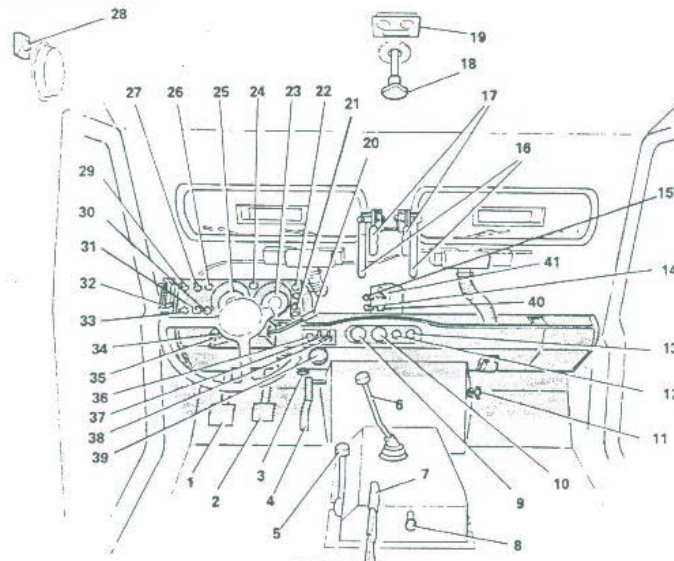

Fig.1-1 Driving controls and instruments
1. Driving controls and instruments (Fig.1-1)
An extraction fan is incorporated into the ventilator in the roof of the vehicle (refer to sect.4 fig. PC1), and is operated by a switch located at the right hand side of the dash panel (fig.1-1).